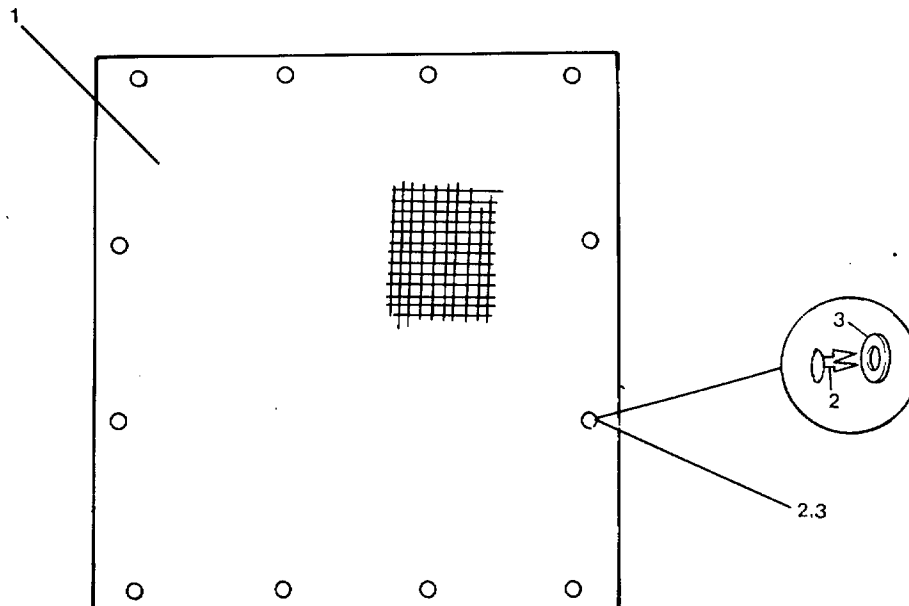

Figure 2-9. Screen Assembly (Inside Treatment Tank).
**2-14. Repair Screen Assembly. (FIGURE 2-9)**
- b. Remove the 12 nylon rivet and grommet fasteners that hold the wire fabric in place (2, 3, FIGURE 2-9). Cut the fasteners if necessary. Discard the old grommets and rivets.
- c. Remove the wire fabric screen (1).
- a. Place a new screen (1, FIGURE 2-9) in position. Attach the screen around the edges with 12 new nylon rivet and grommet fasteners (2 and 3).